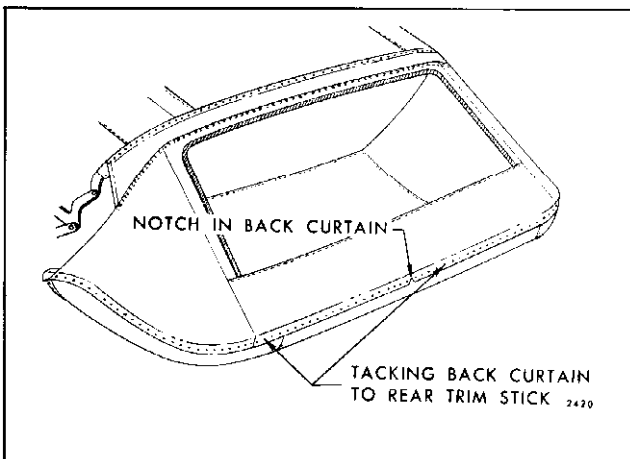

Fig. 13-53 — Back Curtain Installation
**NOTE:** Notch in back curtain material at lower edge indicates centerline of back curtain assembly. (See Fig. 13-53). In addition, back curtain lower edge should extend approximately 1/2" below lower edge of trim sticks.
5. Tack curtain to rear trim sticks (Fig. 13-53).